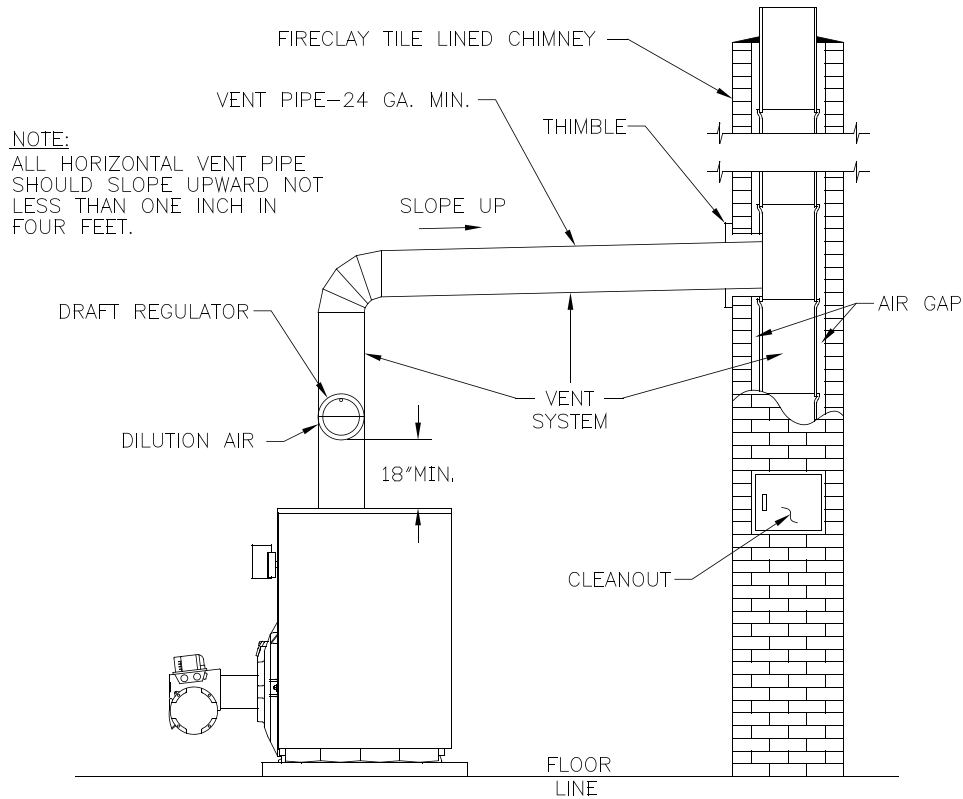

Figure 6-1: Recommended Vent Pipe Arrangement and Chimney Requirements
5. Draft Regulator – the draft regulator (supplied with boiler) must be used with this appliance. Refer to Figure 6-1.